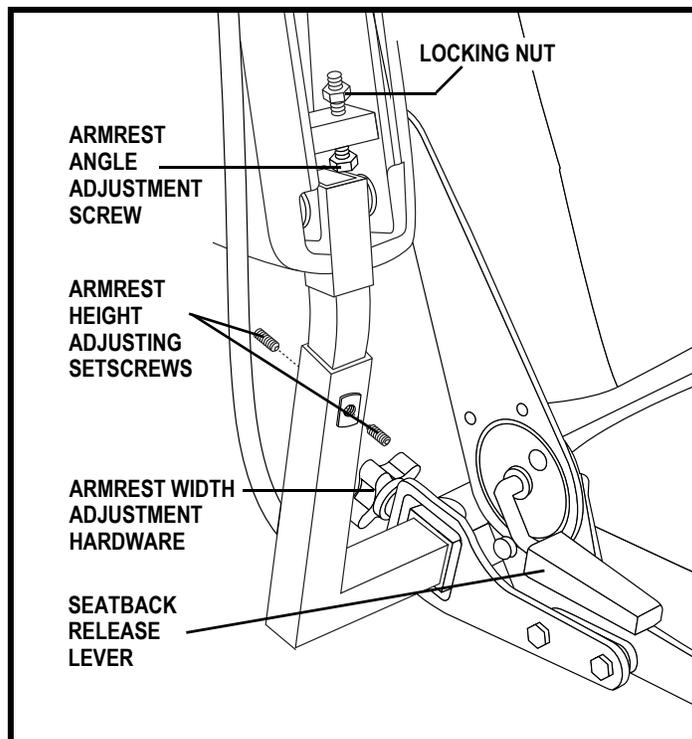

Figure 13. Armrest and Seatback Adjustments
**NOTE:** The most common configuration of the seat adjustment hardware is shown in figure 13. Your product may be equipped with a different configuration. All configurations operate in a similar manner.
If your power chair is equipped with a manual recline seatback, you can adjust the seatback angle with the seatback release lever. The lever is located on the right side of the seat base. See figure 13.
1. Locate the adjustment hardware on each side of the armrest receiver bracket. See figure 13.
1. Lift the armrest straight up so that it is perpendicular to the floor. See figure 13.